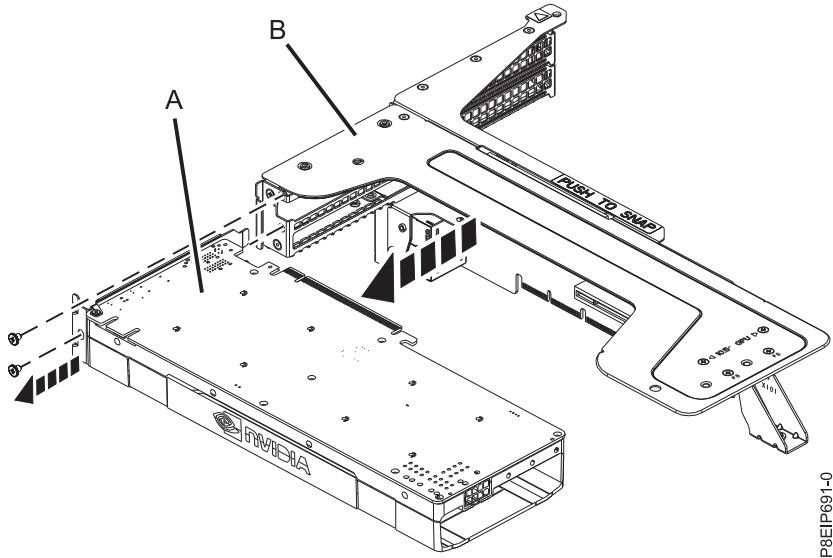

Figure 22. Removing the GPU from the riser
- f. Unplug the GPU (A) from the PCIe adapter riser (B) as shown in Figure 22.